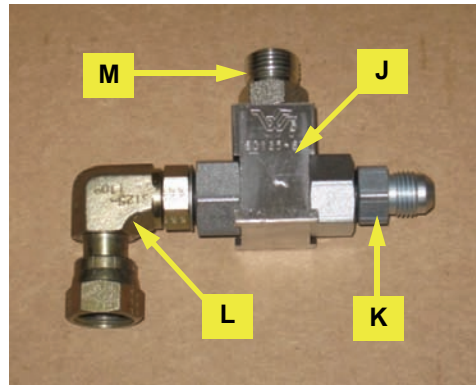

Figure 4a: Assembled load sense shuttle
a. Assemble the load sense shuttle **J** with adapter fittings **K**, **L**, and **M** (Figure 4a).